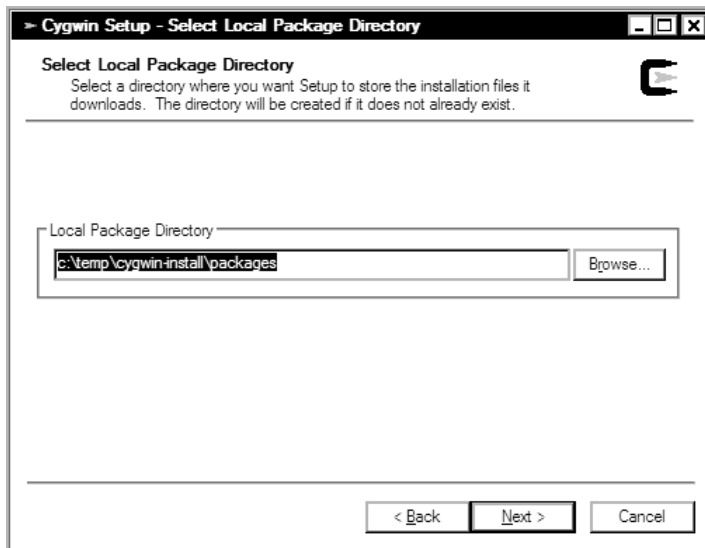

Figure 2-9. Cygwin installation: selecting a local package directory
13. The setup program shows the directory where the files were downloaded (see Figure 2-9).